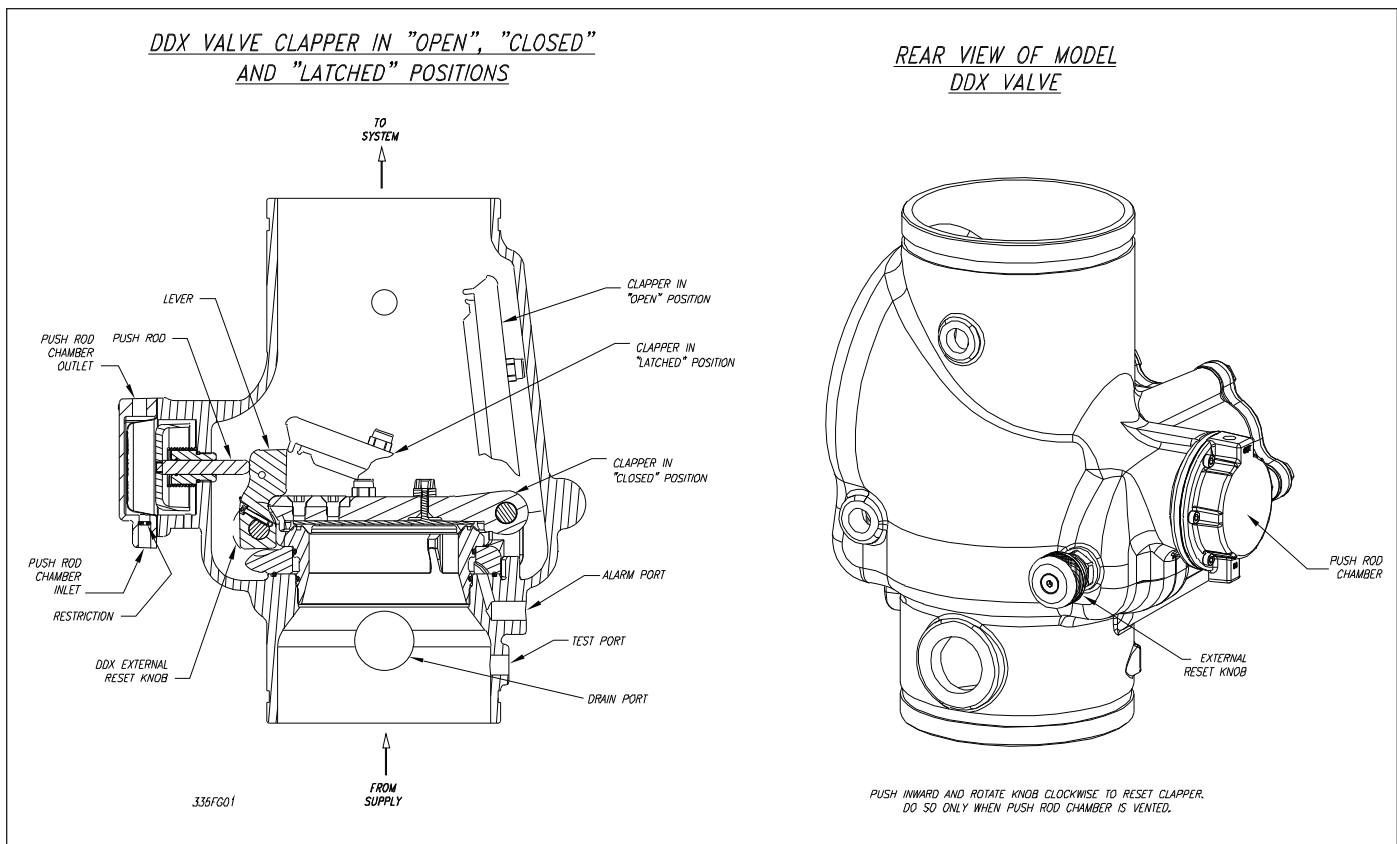

Fig. 1
The Reliable Model DDX-LP Dry Pipe Valve is a hydraulically operated, differential latching clapper-type valve (see Fig 1.) designed for use as a primary control valve in a low pressure dry pipe valve system. The trim set used with the Model DDX-LP Dry Pipe Valve contains the Reliable Model LP Dry Valve Actuator releasing device. This Actuator allows the system's air or nitrogen pressure requirement to be considerably less than the available water supply pressure (see Table A). The following benefits are a direct result of lower air pressure:
5. System maintenance is simplified since priming water is not required and the Dry Pipe Valve can be reset externally without cover removal. This is accomplished by pushing in and turning the external reset knob at the rear of the Dry Pipe Valve (see Fig.1). This feature provides a significant system-restoration time advantage.
The Reliable Model DDX-LP Dry Pipe Valve is shown in both closed and open positions in Fig. 1. In the closed position, the supply pressure acts on the underside of the clapper and also on the push rod through the push rod chamber's inlet restriction. The resultant force due to the supply pressure acting on the push rod is multiplied by the mechanical advantage of the lever and is more than sufficient to hold the clapper closed against normal supply pressure surges.
After system shutdown, resetting the Model DDX-LP Dry Pipe Valve is quite simple. Doing so only requires pushing in and turning the reset knob at the rear of the valve (see Fig. 1). The external reset feature of the Model DDX-LP Dry Pipe Valve provides a means for simple, economical system testing, which is one essential facet of a good maintenance program. The external reset feature does not, however, eliminate another important facet of good maintenance, namely, periodic cleaning and inspection of the internal valve parts.